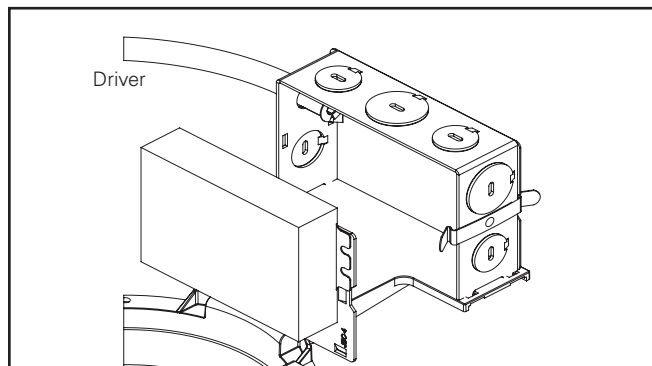

Figure 43.
- Connect supply lead wires to junction box lead wires (line, neutral and ground) in the fixture using the provided connectors. (Figure 43). Be careful not to leave any bare conductors outside of the connectors.
2. Remove the driver and junction box cover assembly. (Figure 43).